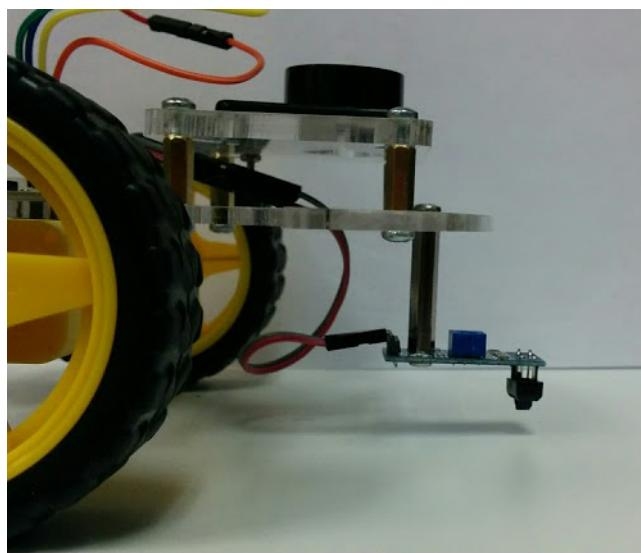

Figure 8: Line sensor mounted on the front of the robot.
- 1) Attach a line sensor as shown in Figure 8, to the front of your vehicle with a 25 mm standoff.